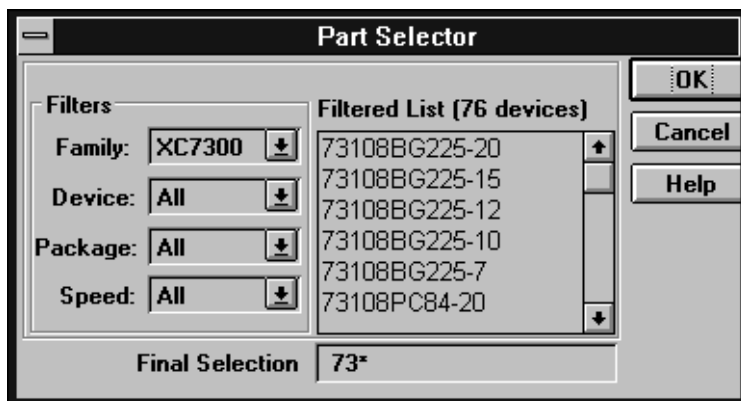

Figure 2-20 Part Selector Window
2. Select New Device from the Design menu. You will see the Part Selector dialog window as shown in Figure 2-20.
3. If you know the specific device you want to use, select the part type, package type, and speed grade by scrolling through the available options as shown in Figure 2-20. For EPLD designs select the XC7000 family.